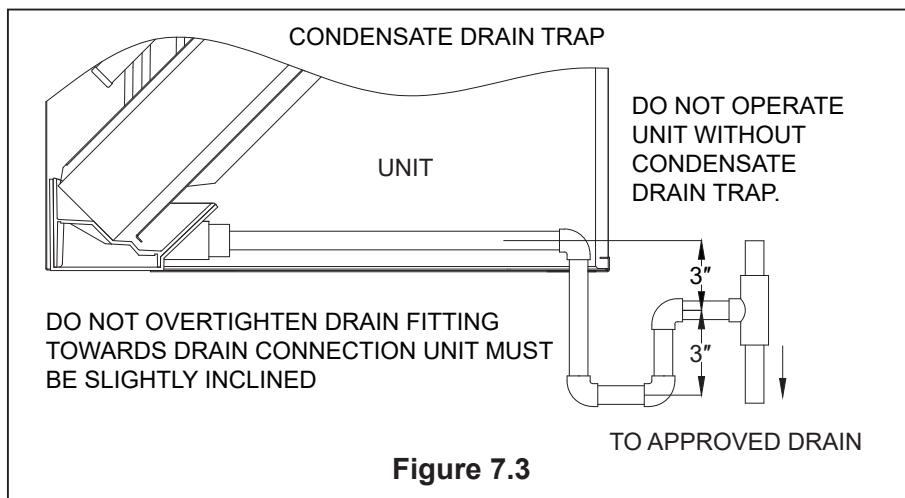

Figure 7.3
For the required condensate trap installation, please refer to Figure 7.3 and the following information.
- If necessary, be prepared to disconnect and clean the main drainage pipe. Install a 3-inch elbow on the main drainage pipe as close as possible to the unit. Make sure that the top of the elbow is lower than the joint of the drain pan to allow the drain pan to drain completely (see Figure 7.3).